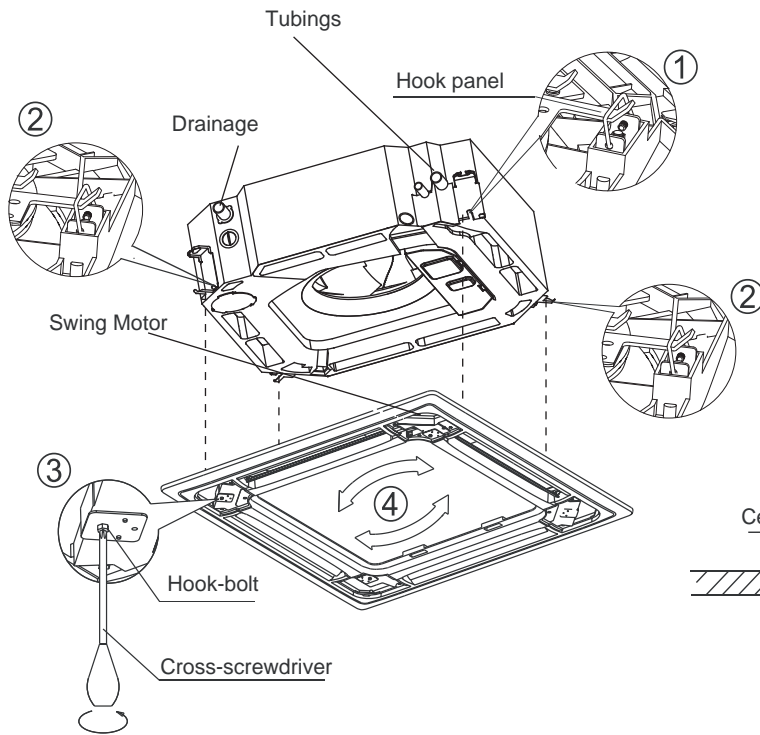

Fig.26
1. Align the swing motor on the panel to the tubing joints of the body properly. (Fig.26)